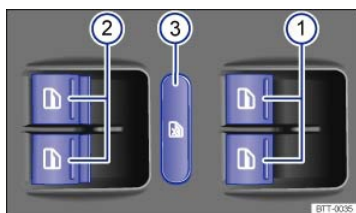

Fig. 33 In the driver door: Switches for the power windows.
Key to ⇒ Fig. 33 :
The safety switch $\Rightarrow$ Fig. 33③ deactivates the power windows in the rear doors. The yellow indicator light in the switch comes on.